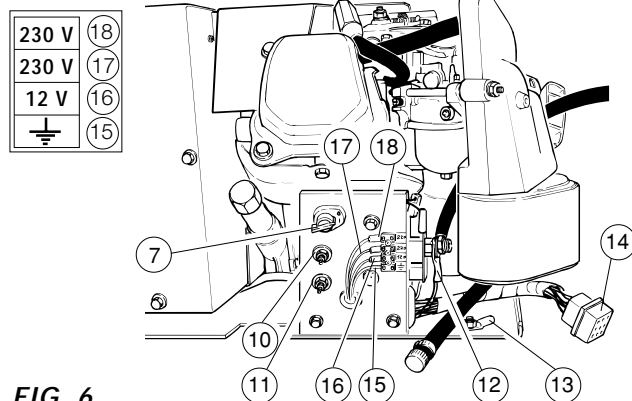

FIG. 6
Check the generator voltage using a tester or voltmeter connected to the vehicle's 230V socket or to the terminals (pos. 17-18 fig. 6 and 14) of the generator terminal board. The voltage should be between 230 and 240 Volts.